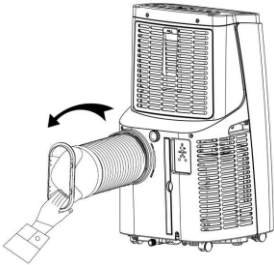

Figure 1.
1.1 Install the heat pipe assembly (as shown in Figure 1): screw the heat pipe assembly (exhaust fitting end) into the exhaust port on the rear panel (counterclockwise).